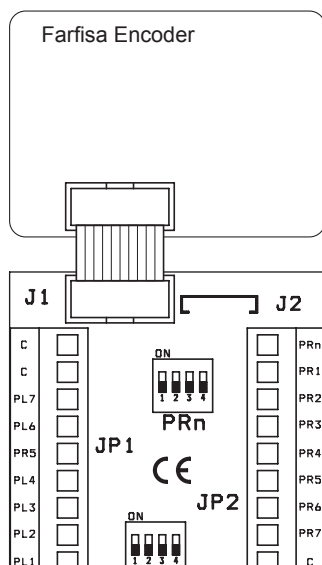
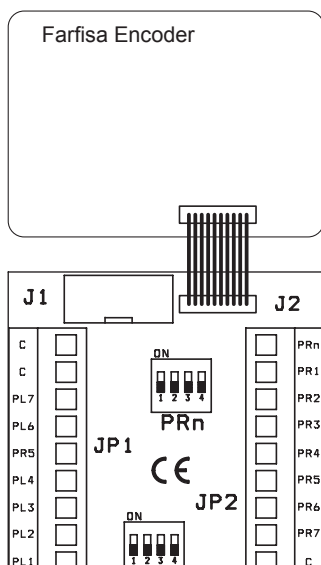

fig. 1a
fig. 1b
- Using the supplied cables, connect the board XT2928U to a Farfisa digital encoding module (use J1 or J2 according to the connector of the Farfisa encoding module; fig.1a or fig.1b).